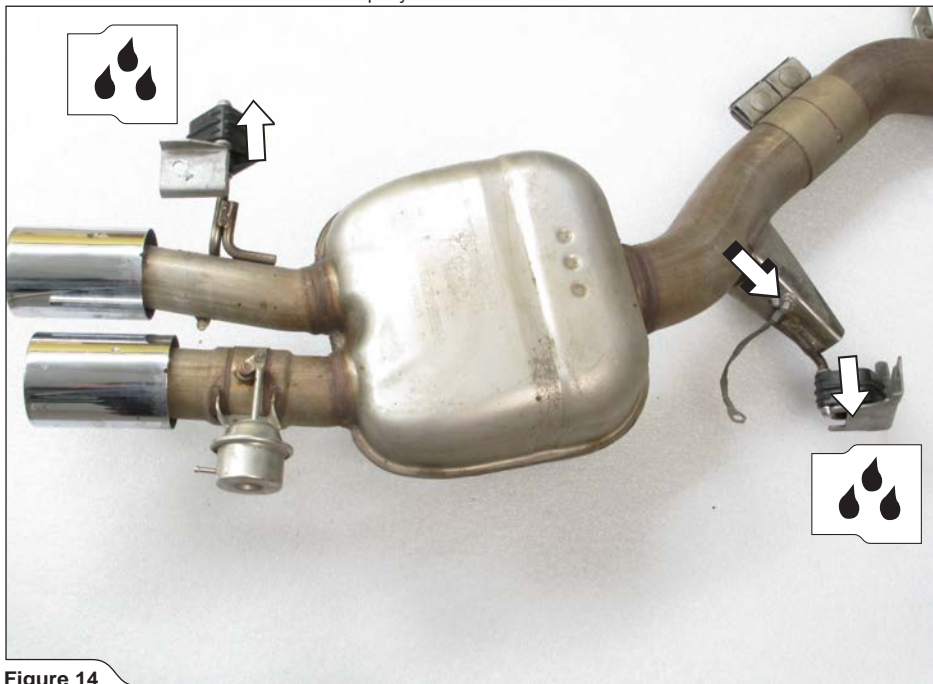

Figure 14
11. Carefully remove the complete stock exhaust system off the vehicle. Carefully pull all rubber brackets off both mufflers and unscrew both ground wires (Figure 14).